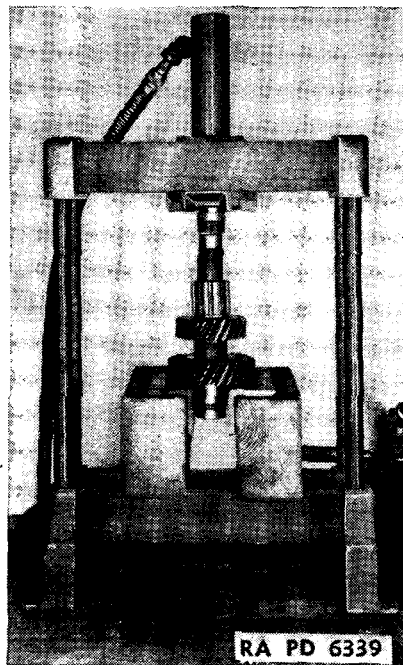

FIGURE 144.—Pressing on transmission countershaft third speed gear.
(1) Replace third speed gear—brass drift, hammer, press. Replace Woodruff key. Set up in press and press gear on shaft (fig. 144).